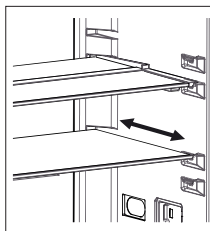

Fig. 1
- To bring the shelf to its original position, pull it toward you. (Fig. 1)